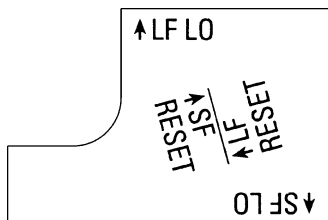

Figure 8-5. Orientation of the label on the bell alarm module for installation as a bell alarm with lockout.
- b. For installation as a bell alarm with lockout, the label on the end of the module should appear as in Figure 8-5, with the legend ↑LF LO horizontal.